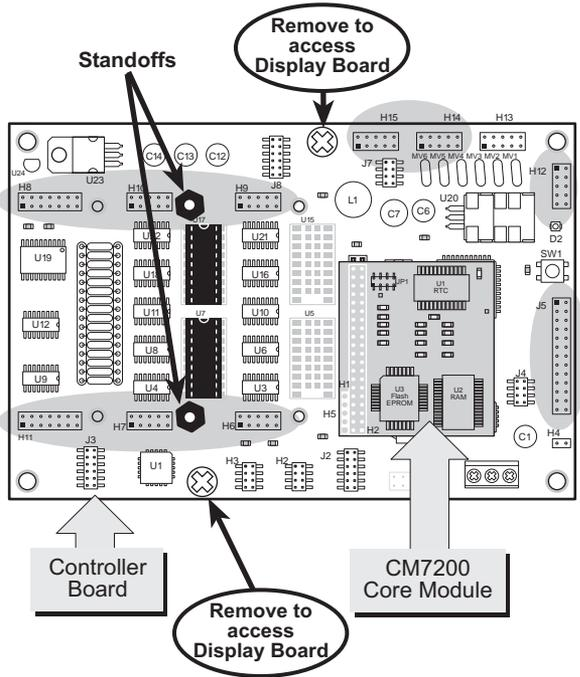

Figure 4-5. Attachment of Controller Board to Display Board and I/O Conversion Module
- The I/O conversion module plugs into headers H8–H11, H7–H10, H6–H9, J5, H12, H14 and H15 on the controller board. Figure 4-5 shows the header locations on the controller board.
2. Remove the two 4 x 1/2" screws holding the controller board to the mounting bracket as shown in Figure 4-5.